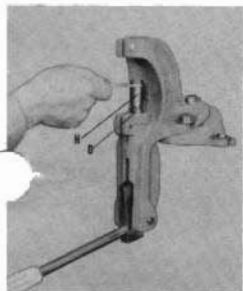

FIG. 4
Thread swage body (H) on ram (D) and tighten with wrench provided. See Fig. 4.